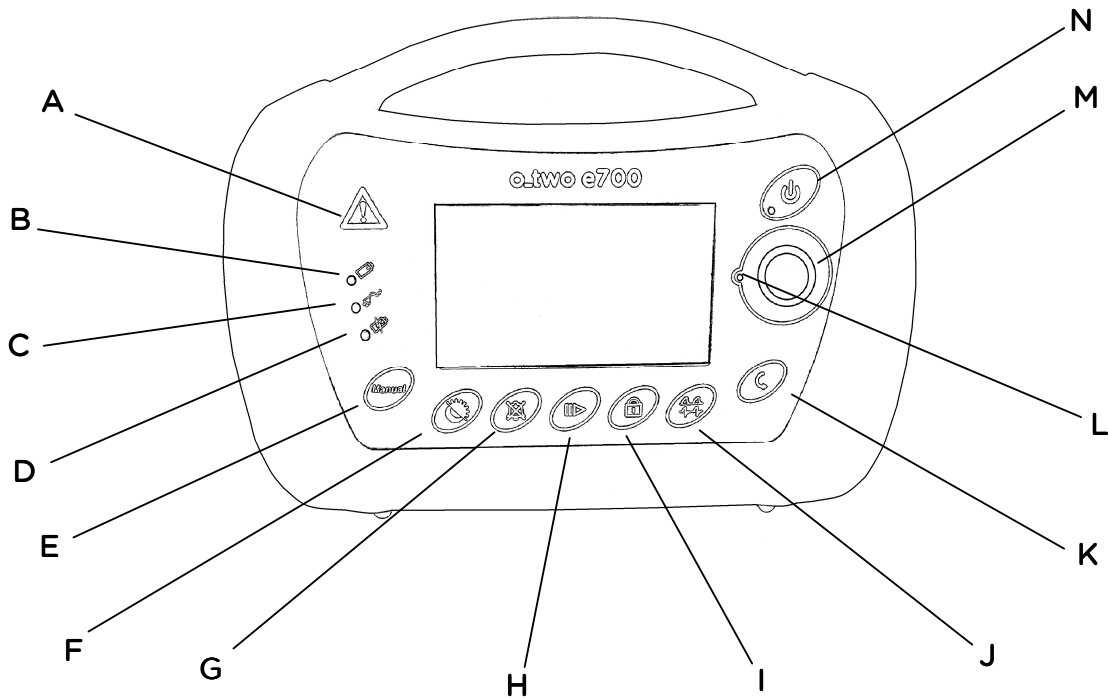

Figure 1
While all ventilation parameter settings are controlled by the Control Selection Knob (M) in Figure 1, there are a number of key membrane buttons which control additional ventilator functions:
To turn on the ventilator, Press the ON/OFF button (N) in Figure 1 for one second, during that second the associated green LED will start flashing at a high frequency. After 1 second the ventilator will turn on but without ventilation until the appropriate patient size symbol is selected. If the button is pressed and released for less than a second, the ventilator will remain OFF.
The Control Selection Knob (M) in Figure 1 is used to navigate between parameters, change modes, select primary function change when rotated, and to confirm function changes when pressed. Diagram below illustrates path of cursor when Control Selection Knob is rotated clockwise.
- 1- Press Lock button (I) in Figure 1. The Lock symbol will be displayed on the screen.
- 2- To cancel the Lock function, press the Lock button (I) again.
Alarm Silence button (G) in Figure 1 will silence audible alarms for 120 seconds. It can also be selected when there is no alarm in order to silence potential alarms. This function is activated or deactivated by pressing the Alarm Silence button once.
Pressing Waveform selection button (J) in figure 1 will switch between the pressure and volume ventilation waveforms displayed on the screen.
Day/ Night mode button (F) in Figure 1 will change brightness and contrast of the text, waveform and background colors. The user can select either one of the following by pressing the Day/ Night button once:
The Cancel button (K) in Figure 1 allows the operator to return to the previous settings if the last unconfirmed changes in settings are not required.
During activation of the Pause/ Resume button (H) in Figure 1, the ventilator will stop ventilating with all buttons kept active (if they are not locked) except Manual/ Hold button.
- a. During Pause, there will be an audible alarm associated with the flashing yellow Warning indicator (A) in Figure 1 every 15 seconds. Users can press Alarm Silence button to disable the audible alarm for 2 minutes but the yellow Warning indicator will continue flashing every 15 seconds.
4. To cancel Pause function, press Pause/ Resume button (H) again. The “Resume” symbol will flash on the screen with the confirmation symbol  and the Confirmation indicator (L) to guide users to resume ventilation by pressing the Control Selection Knob (M).
During exhalation phase, if Manual/ Hold button (E) in Figure 1 is pressed, a mandatory breath will be initiated and either the flow rate or set pressure control parameter will be delivered as long as the Manual/ Hold button is pressed or until I-time setting is achieved.